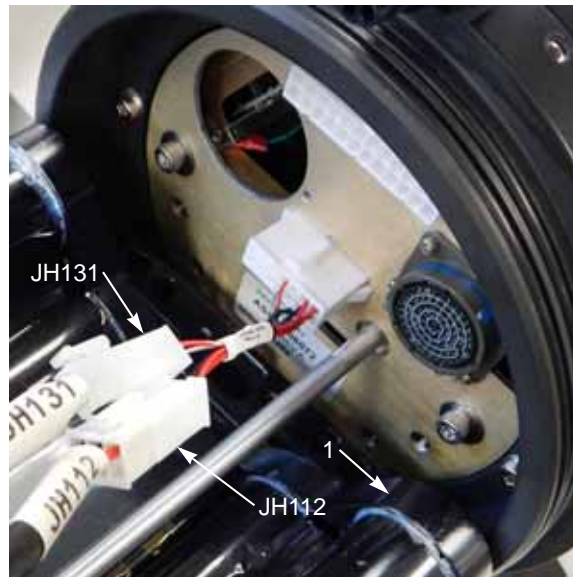

Figure 2-7 Aft glider battery pack.
5. Disconnect the JH112 connection on the aft battery (Figure 2-7, Item 1) from the aft electronics tray.
6. Disconnect the JH131 connection on the aft battery (Figure 2-7, Item 1) from the aft electronics tray.
1. Position the aft battery and connect JH131 and JH112 from the aft battery (Figure 2-7, Item 1) to the aft electronics tray.